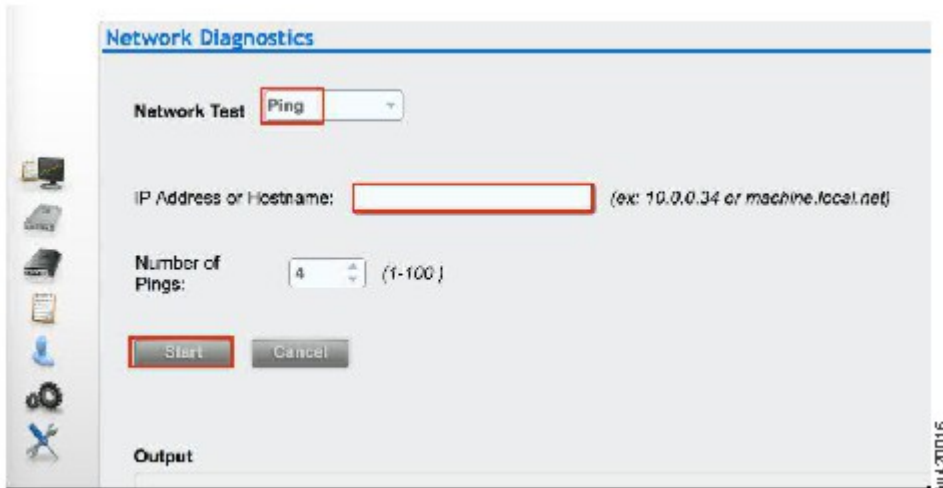

Figure 50. Network Diagnostic
2. From the **Network Diagnostics** page, select **Ping in the Network Test dropdown menu** and enter the IP address for the cloud in the IP address box. See Figure 50 on page 278.